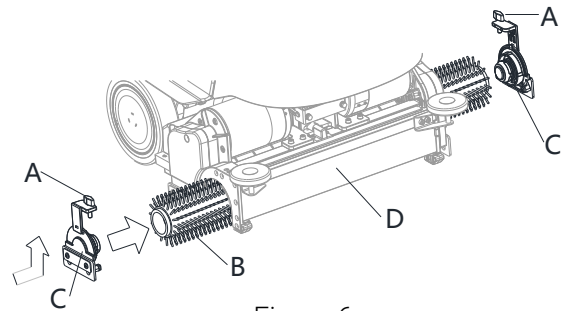

Figure 6
1. Make sure that the cylindrical deck (47) is lifted.
2. Turn off the machine with the start/stop button (62) .
3. According to the kind of cleaning to be performed, install the brush (B, Fig. 6) and note the following:
- Release the screw (A) and remove the side hook (C) from brush deck (D).
- Install the brush (B) in the deck (D). Install the side hook (C) for brush and lock the screw (A).